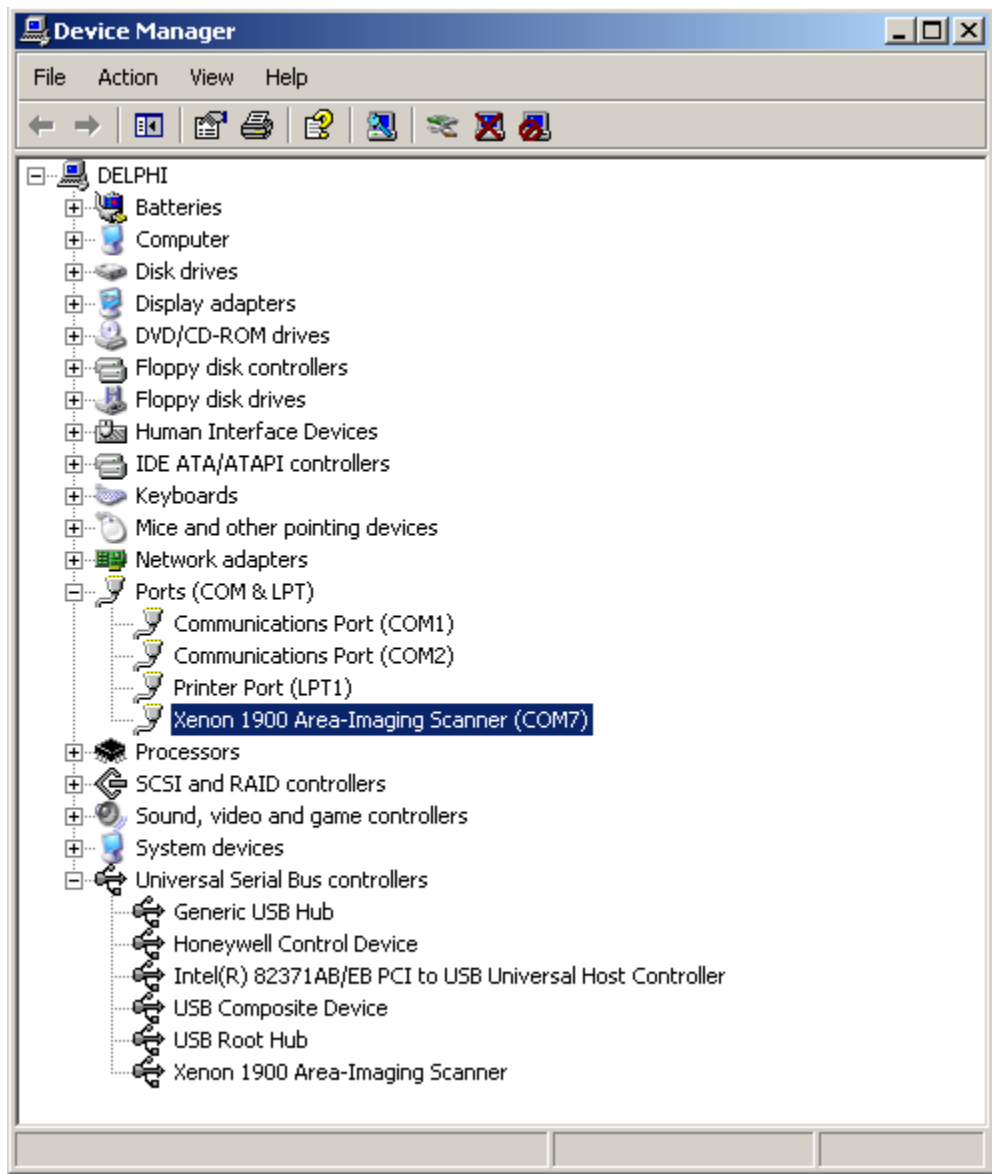

Figure 2 – Device Manager
9. Expand the Ports tree (Figure 2).